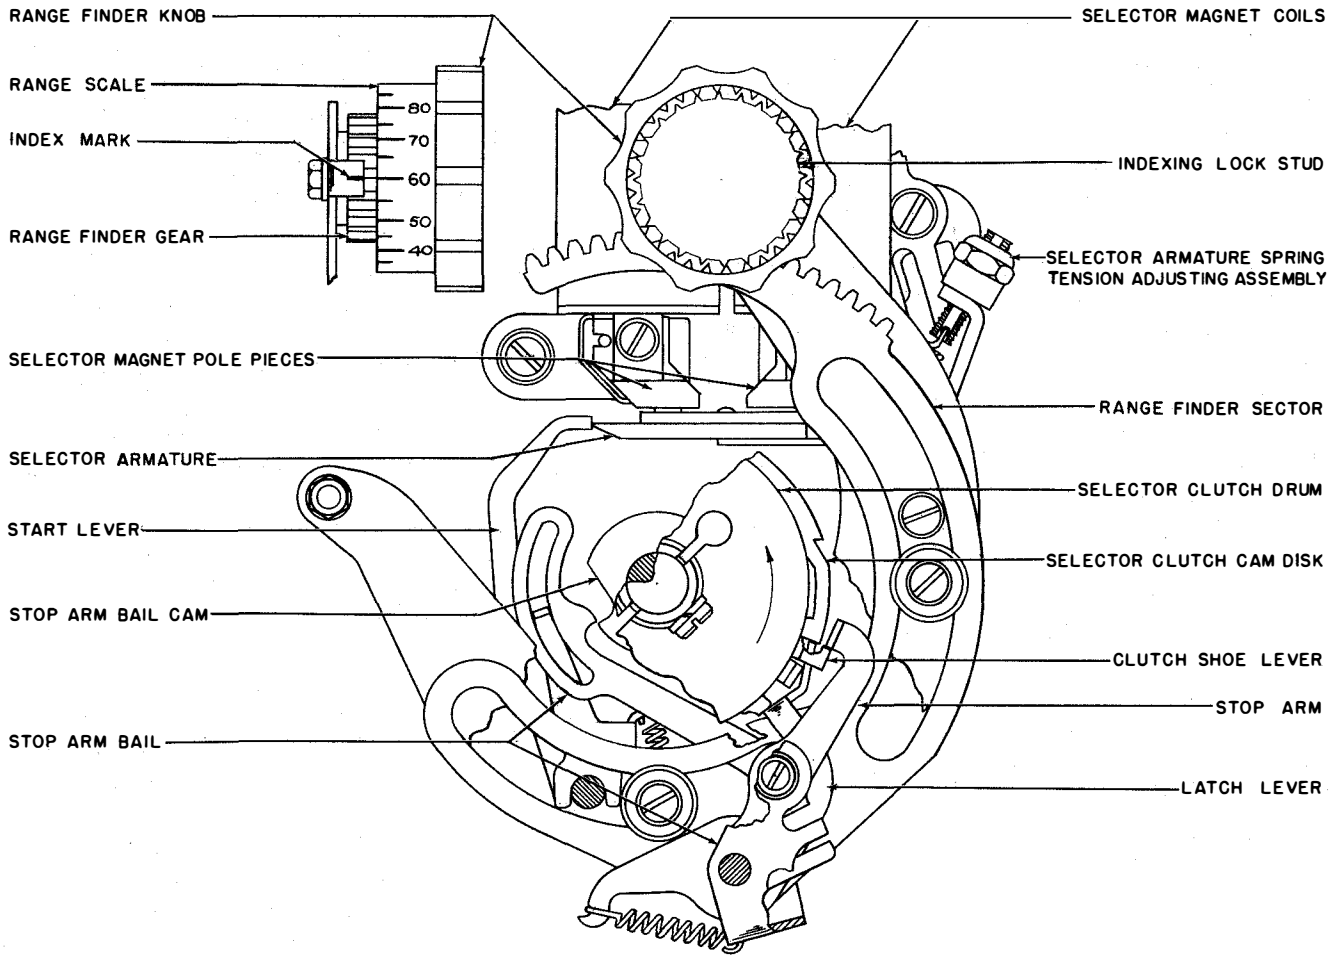

Figure 2-37. Selector Cam Clutch Trip Mechanism
(3) During the time in which a closed line circuit (marking) condition exists, the selector magnet coils are energized and hold the selector armature against the selector magnet pole pieces. In this stop position, the selector armature blocks the start lever (figure 2-37). While the signal for any character or function is being received, the start (spacing) element releases the selector armature which, under the tension of its spring, moves away from the magnet cores and thus unlatches the start lever. The start lever turns clockwise under the tension of its spring, to move the stop arm bail into the indent of its cam. As the stop arm bail rotates about its pivot point, the attached stop arm is moved out of engagement with the clutch shoe lever. The selector cam-clutch engages and begins to rotate. The stop arm
(2) When the range finder knob (figure 2-37) is pushed inward and rotated, its attached range finder gear moves the range finder sector (which mounts the stop arm bail, stop arm and latch lever), either clockwise or counterclockwise about the selector cam-clutch. This changes the angular position at which the selector cam-clutch stops with respect to the selecting levers. When an optimum setting is obtained, the range finder knob is released. Its inner teeth engage the teeth of the indexing lock stud to lock the range finder mechanism in position. The setting may be read on the range scale opposite the fixed index mark.